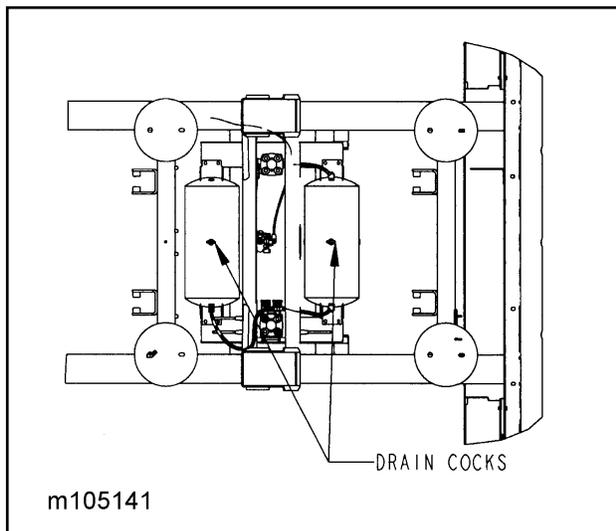

Figure 4-8 Drain Cock Locations
- Drain air reservoir daily. A drain cock on the bottom of each air reservoir vents the tank to drain collected water and oil. If held open, air pressure in the tanks is relieved, causing the emergency or parking brakes to be applied (See Figure 4-8).